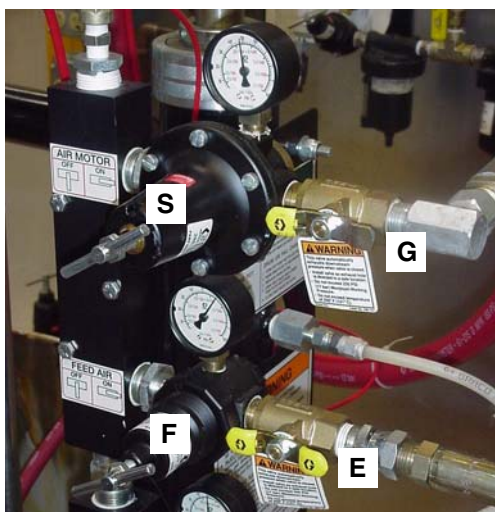
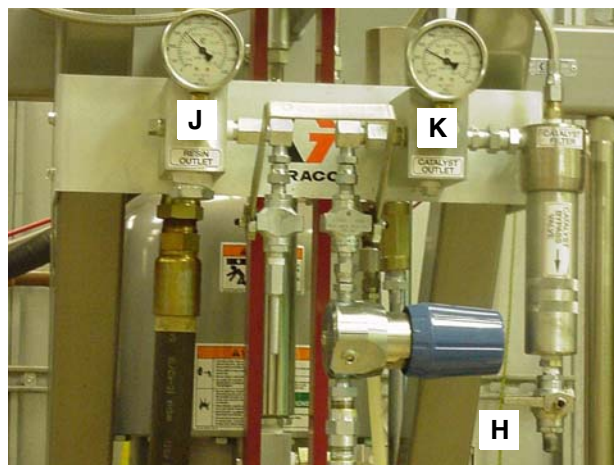
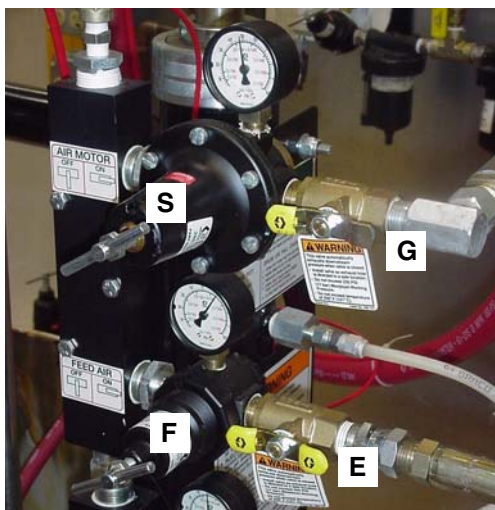
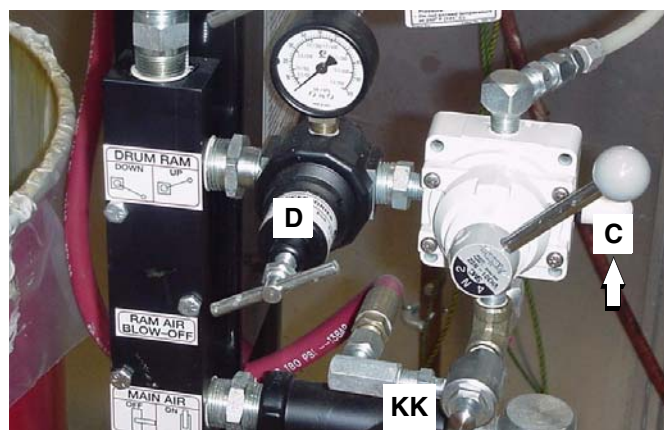

FIG. 25
FIG. 26
FIG. 28
FIG. 29
3. Open the air motor and catalyst air shutoff valves (G and E), FIG. 25. Make sure the catalyst bypass valve is closed (H), FIG. 26.
1. Open the catalyst bypass valve (H), FIG. 26.
4. Open the air motor and catalyst air shutoff valves (G and E), FIG. 28. Make sure the catalyst bypass valve (H) is closed, FIG. 26, and the motor air pilot bypass valve is switched to NORMAL.
6. Adjust the catalyst supply air regulator (F) so that catalyst inbound pressure is no more than 1/4 of catalyst outbound pressure, FIG. 28.
7. Adjust the air motor air regulator (S) for the desired flow rate.
1. Close the air motor shutoff valve (G), FIG. 28.
2. With the ram lever (C) in the neutral position, adjust the ram regulator (D) to 0 psi.
3. Place the ram lever (C) in the UP position, FIG. 29.